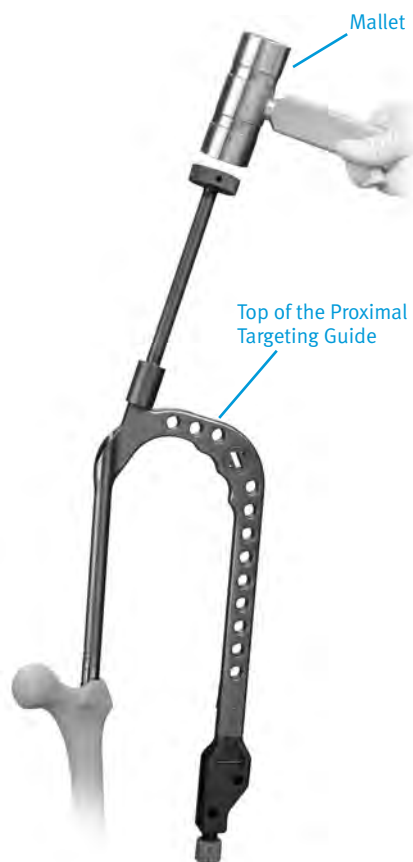

Fig. 19
**NOTE:** If nail insertion can not be achieved by hand, thread the Small or Long Threaded Driver on the Barrel (Fig. 19). Insert the nail into the canal using a series of gentle impactions, if necessary, on the Threaded Driver until the nail is seated at the desired depth.